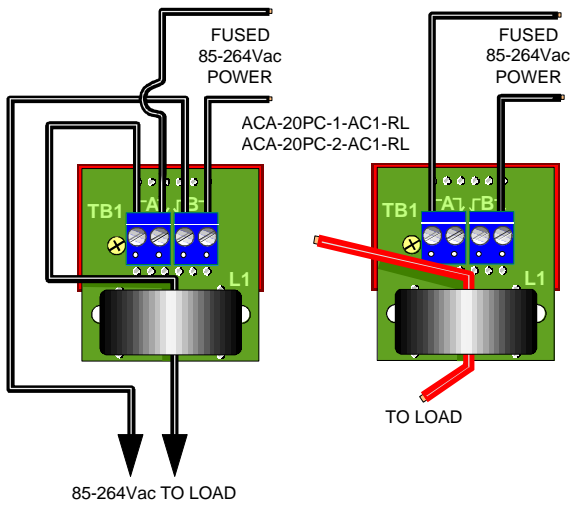

Figure 3. 2A and 20A, 85-264V AC-Powered Models With Auxiliary Load Connections
- ① The ACA-20PC-1-AC1-RL and ACA-20PC-2-AC1-RL have 4-position on-board terminal blocks. All other models have 2-position terminal blocks.
- ② Specified full-scale currents are those passing through the built-in CT's primary (load) circuit, over the frequency of 45-450Hz. The Overcurrent Rating is a continuous rating that applies to the measured ac load current. It does not apply to any circuitry external to the meter. Accuracy is guaranteed to the rated current.
- ③ For the ACA-20PC-2-AC1-RL, if the load is connected to the meter's on-board 4-position terminal block, the 20A full scale range requires 12AWG solid copper wire on all connections. If 14AWG solid copper wire is used, the current should be limited to 15A. See Figure 3.
- ④ All specified maximum power supply currents are steady-state values. AC-powered models can draw higher surges at initial turn-on.
- ⑤ Maximum reverse polarity protection on "DC1" models is -40Vdc, and -50Vdc on "DC2" models. "DC3" models provide no reverse polarity protection.